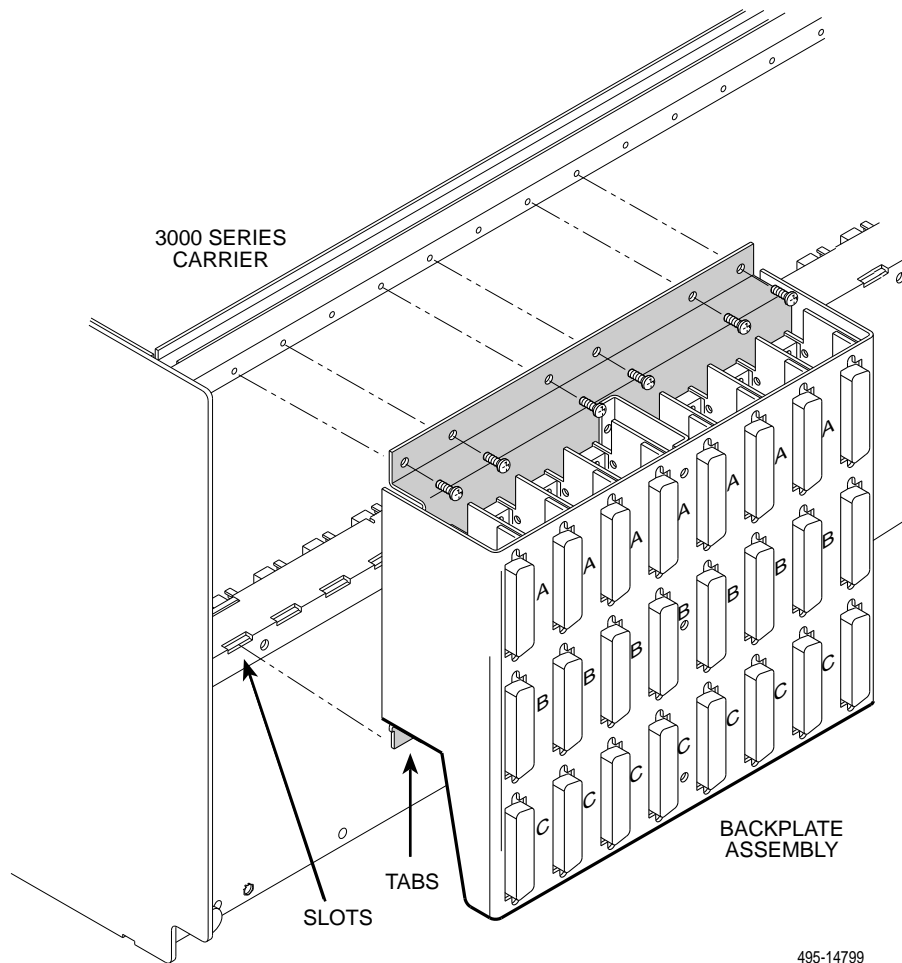

Figure 2-3. DTE Interface Assembly
2. Insert the screws provided, but **do not completely tighten them**. See Figure 2-3.